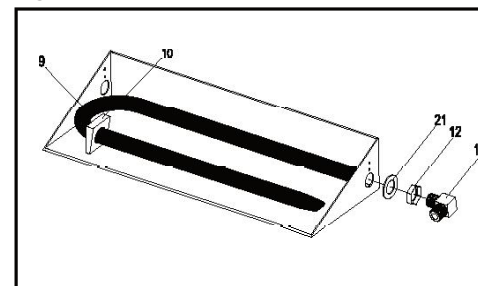

Figure 6. Burner bar connection
- Secure the intake end of the Dual burner bar (Part # 9) to the burner pan (Part # 8) through the knockout hole selected (right or left hand) with the 3/8" brass orifice elbow (Part # 11) , 3/8" locknut (Part # 12) and washer (Part #21) previously assembled in Step B.(See Figure 6.)